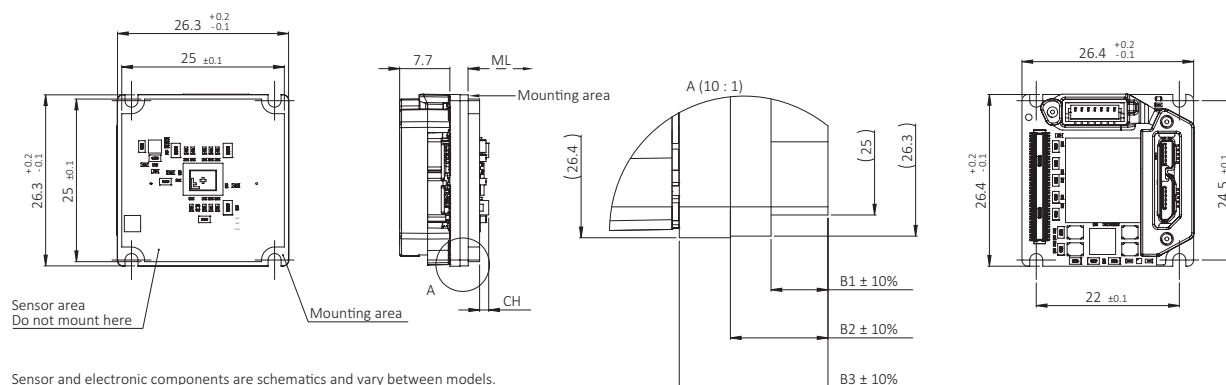

Figure 30: Bare Board dimensions
Dimensions that are common between different models are shown in Figure 30, model specific dimensions are listed in Table 55. **Mechanical length (ML)** defines the mechanical distance from the mounting area to the lens mount front flange, without optical filter. **Components height (CH)** relates to the electronic components with maximum height, in some cases the sensor.